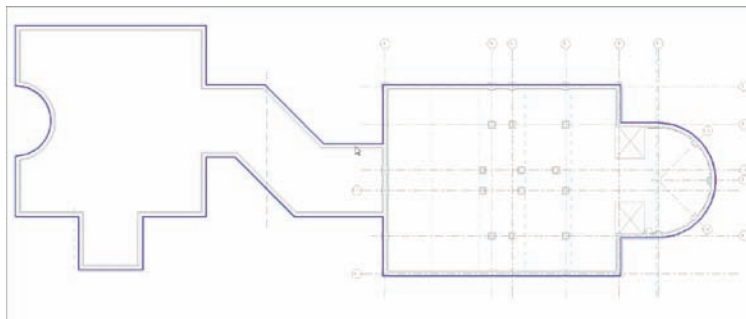

FIGURE 18.22 Place the pad to the outside of the wall.
10. Pick walls to place the pad against the outside of the foundation wall underneath the entire model, as shown in Figure 18.22. Trim the sketch lines as necessary.